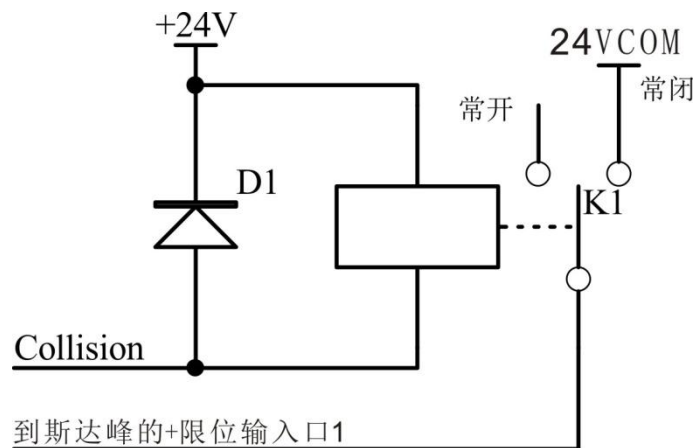

Fig 4-3: connection on the SF for the stop when collision
- 2、 This CNC controller is without collision input port, if you need the stop function when collision, please reference SF instruction Fig 4-3 :